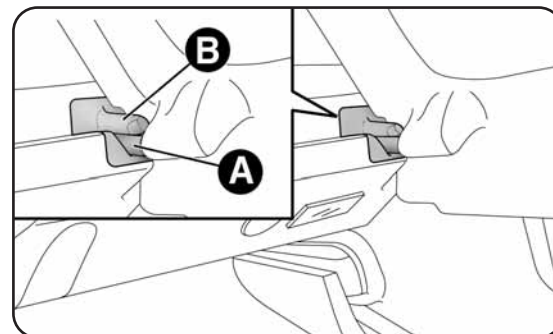

fig. 63
- free pins A-fig. 63 on the outside of the shelf from housings B in the side mounts, then remove the parcel shelf.